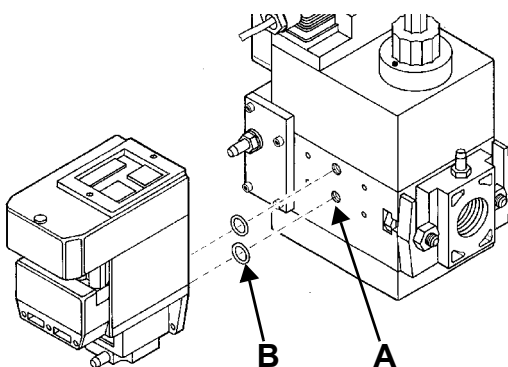
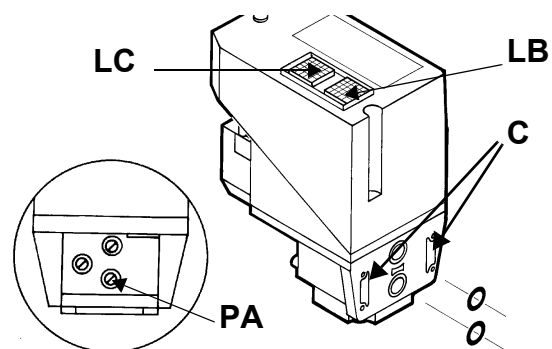

Fig. 22
Fig. 23
- 3 remove the Multibloc screw plugs (Fig. 22-A);
- 4 insert sealing rings (10,5 x 2,25) into VPS 504 (Fig. 22-B - Fig. 23)
- 5 Torque screws 3, 4, 5, 6 (M4 x16) Fig. 23-C
When wishing to monitor the test, install a pressure gauge ranged to that of the pressure supply point PA (Fig. 23). If the test cycle is satisfactory, after a few seconds the consent light LC (yellow) comes on. In the opposite case the lockout light LB (red) comes on. To restart it is necessary to reset the appliance by pressing the illuminated pushbutton LB.